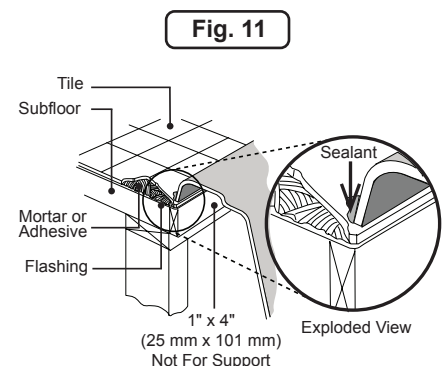

Fig. 11
- Caulk around the perimeter of bathtub to seal the space between the rim and the finished deck (Figure 11).